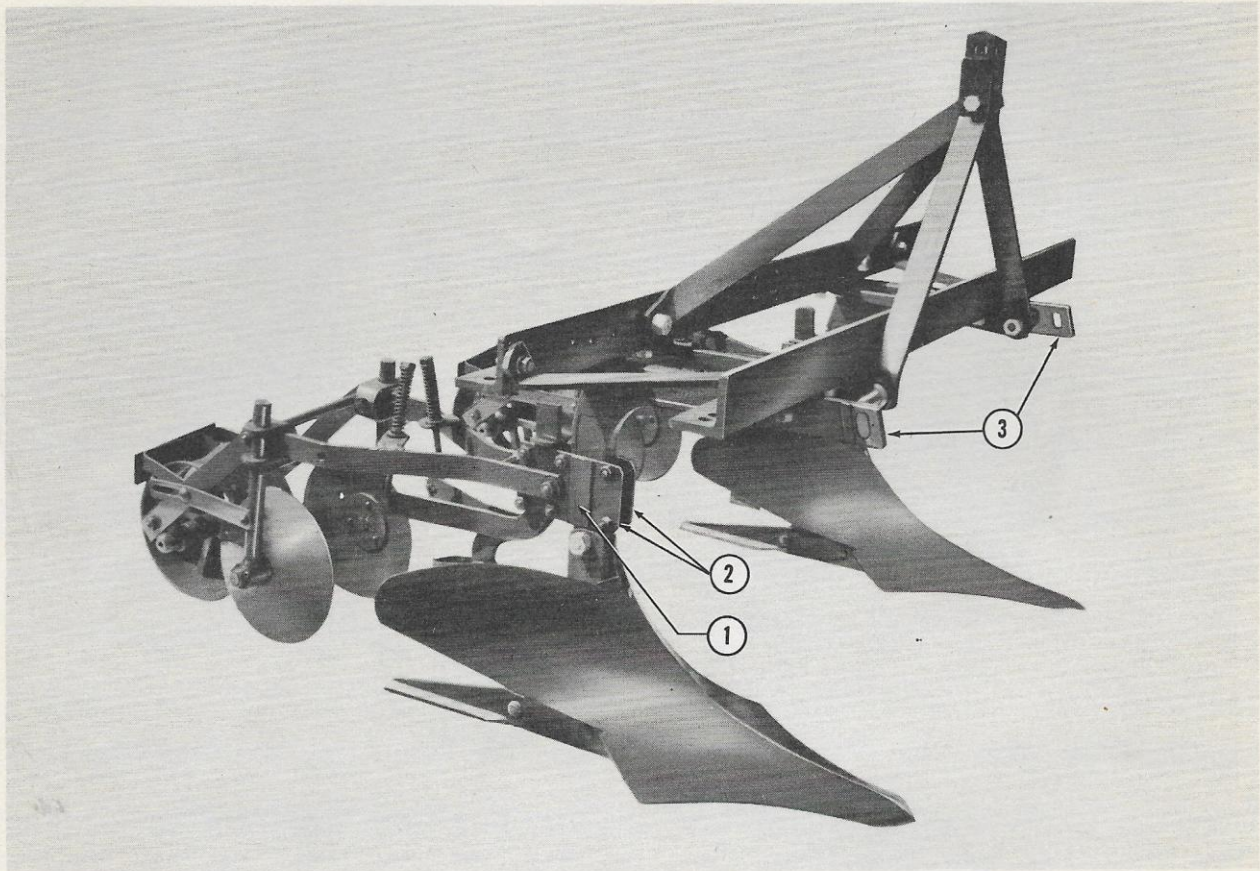

Figure 21
3. Adjust the middlebuster beams (3), Figure 21, at the desired row width. Be sure the beams are spaced equally from the center of the frame.
4. Reverse the clamp bracket plates (2), Figure 21, on each covering assembly so the welded spacers (1) are on the outside of the beams, as shown.
5. Attach the covering assemblies to the beams (3), Figure 21, and secure with the carriage bolts as shown. Attach the covering assemblies as low as possible on the beams (3), Figure 21, for proper operation.